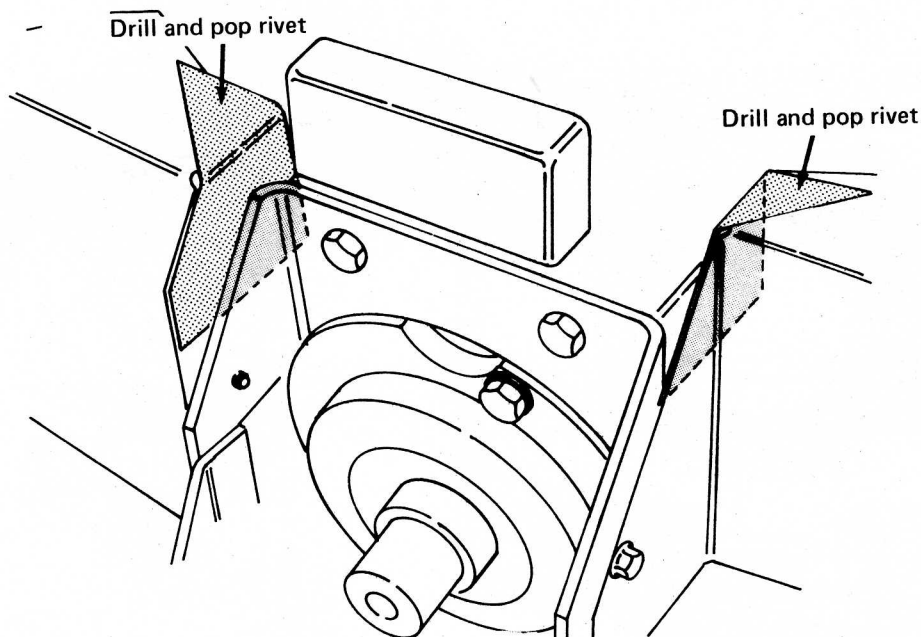

FIGURE 1
3. Slip the rear cylinder baffle extensions in position. Make certain the corners are closed off. See Figure 1. Tighten the screws.